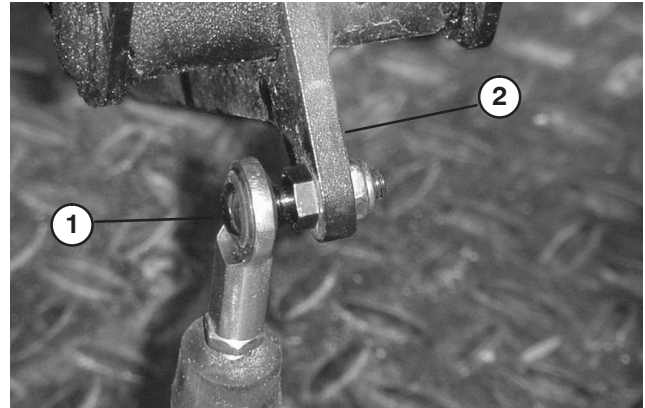

Figure 2
5. Remove the nut securing the clutch cable ball joint to the clutch pedal (Fig. 2). Retain the nut.